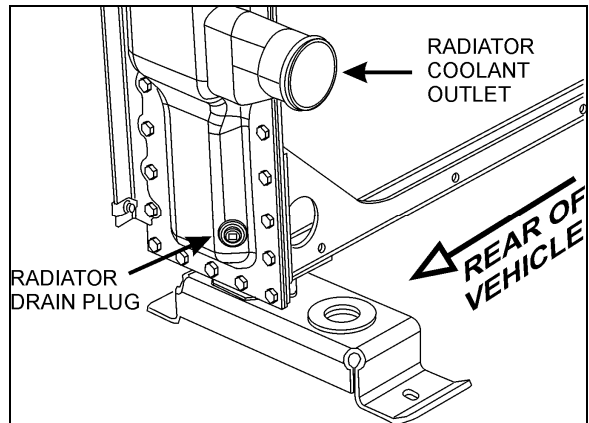

FIGURE 16: RADIATOR DRAIN PLUG 05139
5. Open the radiator drain cock (Fig. 16).